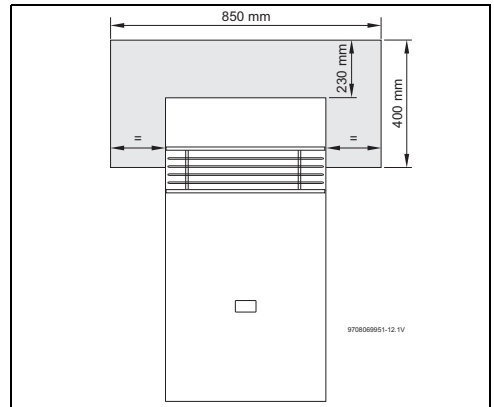

Fig. 4 Heat shield
- ▶ Use a heat shield as per AS/NZS5601 - accessory 9 708 061 400.ZG1 (→ Fig. 4).